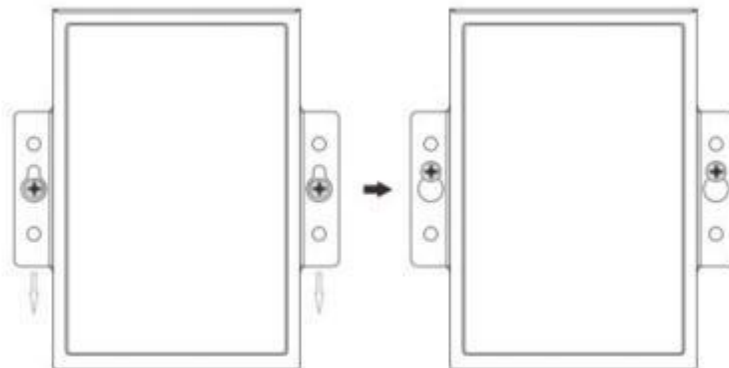

Fig. 5 Wall mount installation
- ❖ Align the wall mount plate over the screws on the wall. Hang the device on two screws and slide it downward to lock in place, then tighten the screw to enhance stability, see the following Fig.5.